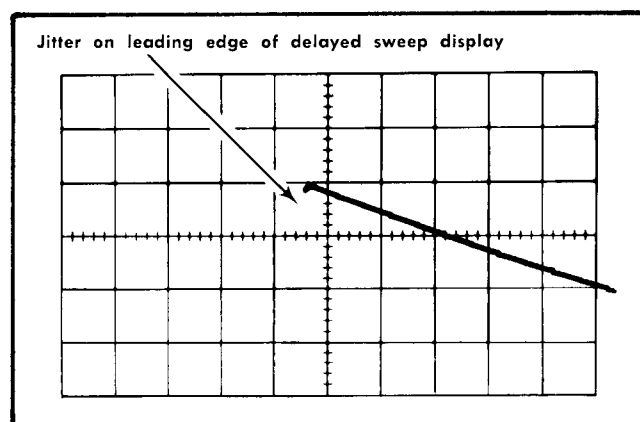

Fig. 6-56. Typical CRT display when checking delay-time jitter.
c. CHECK—Jitter on the leading edge of the pulse should not exceed 0.5 division (1 part in 20,000); see Fig. 6-56). Disregard slow drift.
e. CHECK—Jitter on leading edge of the pulse should not exceed 0.5 division; see Fig. 6-56. Disregard slow drift.